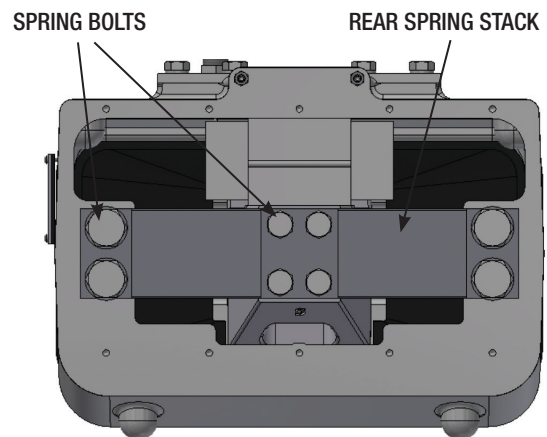

Figure 13
2. Remove rear spring bolts, spring clamps, spacers and springs (**See Figure 13**).